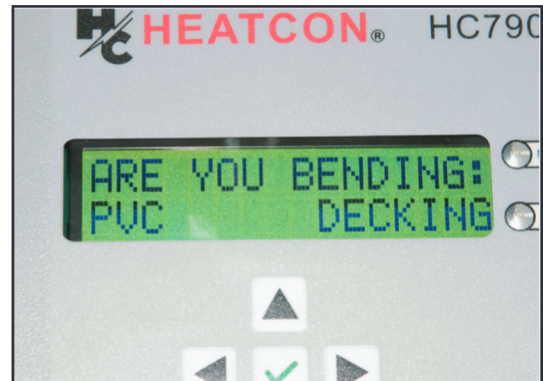

Figure 9
8. Plug the controller into the wall, and push the On/Off button. The display will flash the controller information then ask if you wish to bend PVC or Decking, use the left arrow to move the cursor to PVC then push the \checkmark key. (Fig. 9)